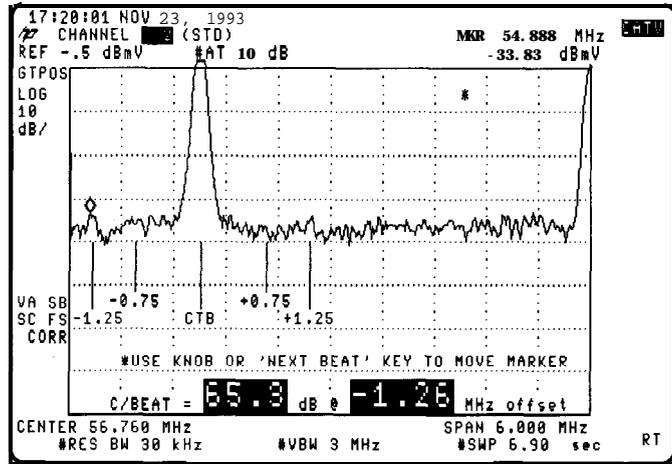

Figure 2-17. CSO Measurement
- c. Using the knob, move the marker to the desired beat, see Figure 2-17. Note that if the marker is not active you will need to press **MARKER**. Alternatively, use the NEXT BEAT key.